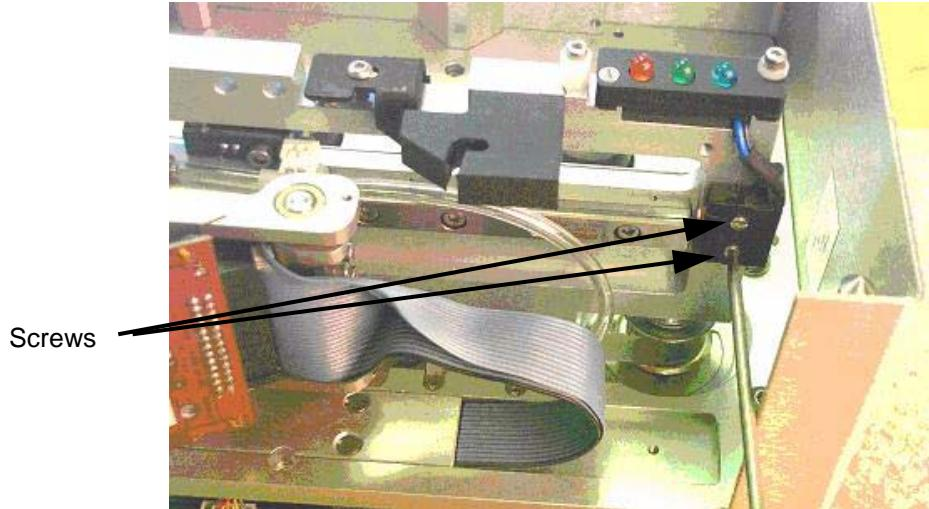

Figure 5-59: Microswitch Screws Removal
- 2 Remove the two microswitch screws as shown in Figure 5-59.